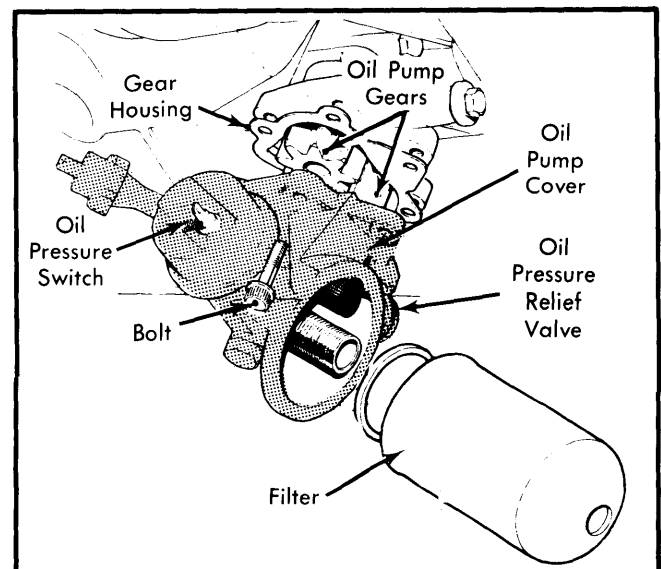

Fig. 11 Removing Oil Pump Cover from Housing
**Removal** – Remove oil filter. Disconnect electrical lead from oil pressure switch. Remove bolts attaching oil pump cover assembly to timing gear cover. See Fig. 11. Lift off cover and gasket and slide out oil pump gears.